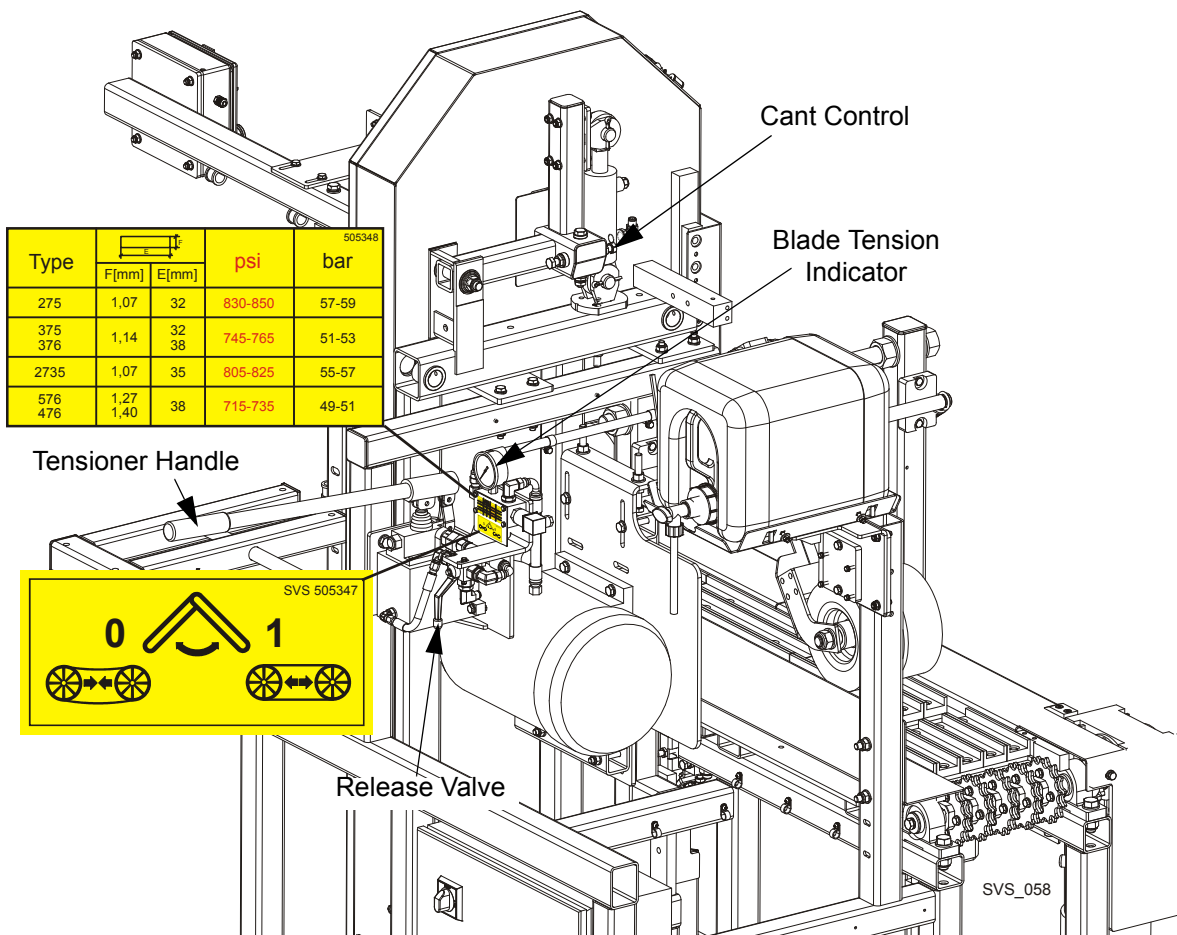

FIG. 2-4 REV. A4.00+
See **Figure 2-4. Rev. A4.00+**: Place the provided handle in the blade tensioner socket and secure with a screw. Set the tensioner valve to position “1”. Move the tensioner handle up and down to tension the blade. Depends on the installed blade type, tension the blade to the value shown on the decal located below blade tension valve. Values “F” and “E” are: blade thickness and blade width. Check the blade tension occasionally when adjusting the cant control or while cutting and adjust if necessary. As the blade and belts heat up and stretch, the blade tension will change. Also, ambient temperature changes can cause tension to change. To release the blade tension set the tensioner valve to “0” position.
4. Use the cant adjustment bolt, shown in **Figure 2-4**, to adjust where the blade travels on the blade wheels.